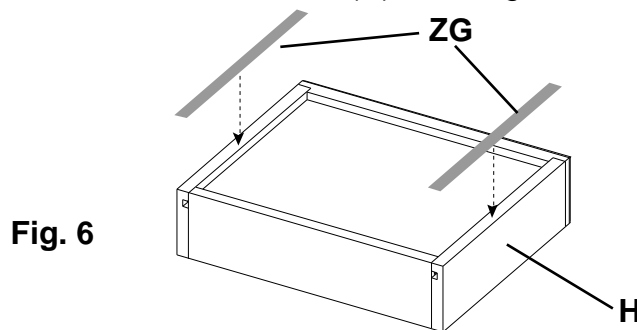

Fig. 6
- After the drawers have been finished, peel off the backings on the Velvet Pads (ZG) and apply them to the bottom of the Hutch Drawers (H). See Figure 6.